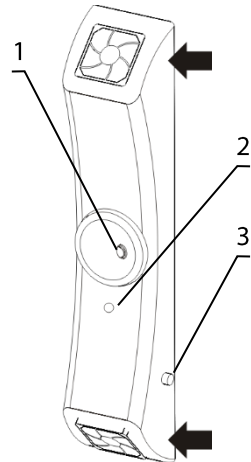

Figure 4. Overview
- 5.1. Plug the power cord to a grounded mains socket. Switch on the power switch (fig. 4/1).
- 5.2. Unit starts the recirculator automatically. Lit indicator (fig. 4/2) shows that the UV lamp is working.
To check, replace or clean the filters, simply unclip the covers (fig. 4/◀), if necessary, fit a new one; otherwise rinse in water, dry and set up existing filters. Clip covers back in place. This maintenance operation is performed by the user.
- 7.4. **Fuse replacement.** Disconnect the device from the mains. Open the fuse holder located on the side of the unit (fig. 4/3) by turning its cover counter clockwise using a screwdriver. Replace with a new fuse, M 1.0 A for 230 V or M 1.6 A for 120 V (type **M** - time lag: **Medium**).
- 7.5. **UV-lamp replacement.** Replacement must be performed only by qualified and specially trained personnel. UV lamp replacement is necessary after lamp stops functioning or at the end of manufacturer specified lifetime. Use the indicator in the centre of recirculator (fig. 4/2) to check operation of UV lamp inside the recirculator. If the indicator is alight while the switch is ON, then the UV lamp is functioning. If it is not, replace the lamp.